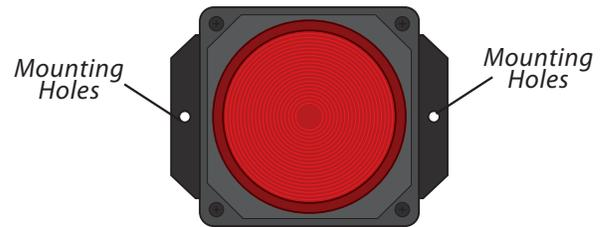

FIG. 3
- 3** Mount the strobe light to the collector (or in another high visibility location) using the two #10 mounting holes or adhesive of your choice [FIG 3].